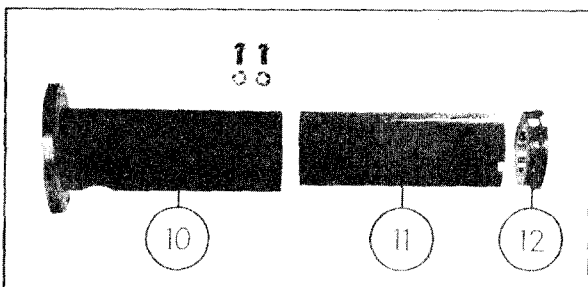

Figure 4-10. Parts Comprising Drive Housing
Inside the housing (9) is a phenolic form filled with aquadag. There is no reason for this form to be removed from the housing, but if necessary the form can be replaced in the order shown in figure 4-10. The phenolic form (11) should be forced into the housing (10) so that the two elliptical openings mate. The form is held in place by friction and by the cap (12). Two #8-32 screws hold the cap in place.